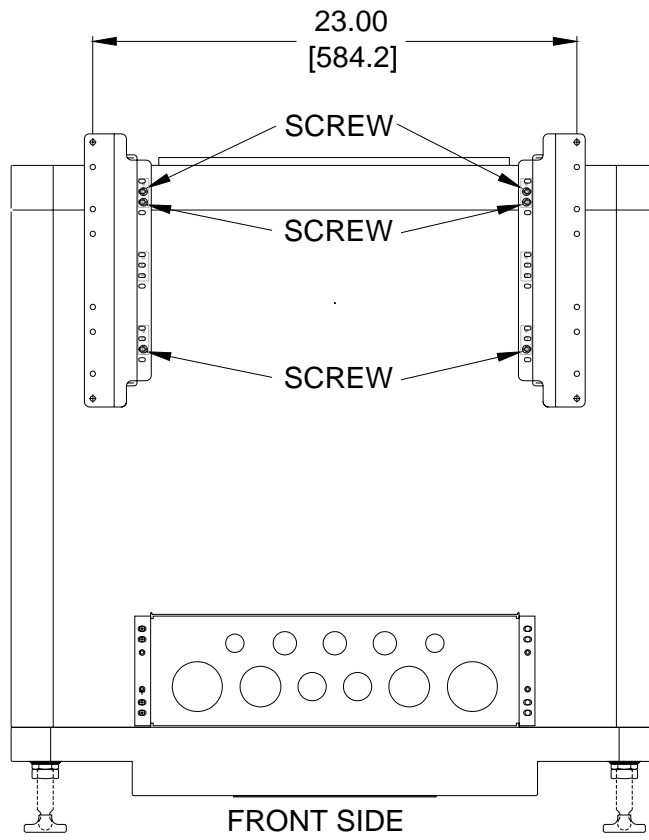

Figure 2-1
1. If the mounting brackets aren't already mounted to the base, attach them as shown in Figure 2-1. They should be approximately centered vertically on the mounting hole pattern on the front of the base. The brackets are symmetrical, there is no left or right or top or bottom.
2. Use a minimum of six (6) 10-32 UNF or M5 screws to mount the brackets (pan head or socket head may be used). Two screws should be used on each side near the top. Add one or two more screws near the bottom. Additional screws may be added if desired, but aren't necessary.
3. The mounting bracket screws are in slots to accommodate minor manufacturing tolerances. Note the dimension shown in Figure 2-1 of 23.00 inches between the mounting hole centers. You can measure this and set it precisely before tightening the bracket mounting screws. But it will be easiest if you don't tighten the screws at this point, but leave them about one full turn from being seated so the position of the brackets can be adjusted later.